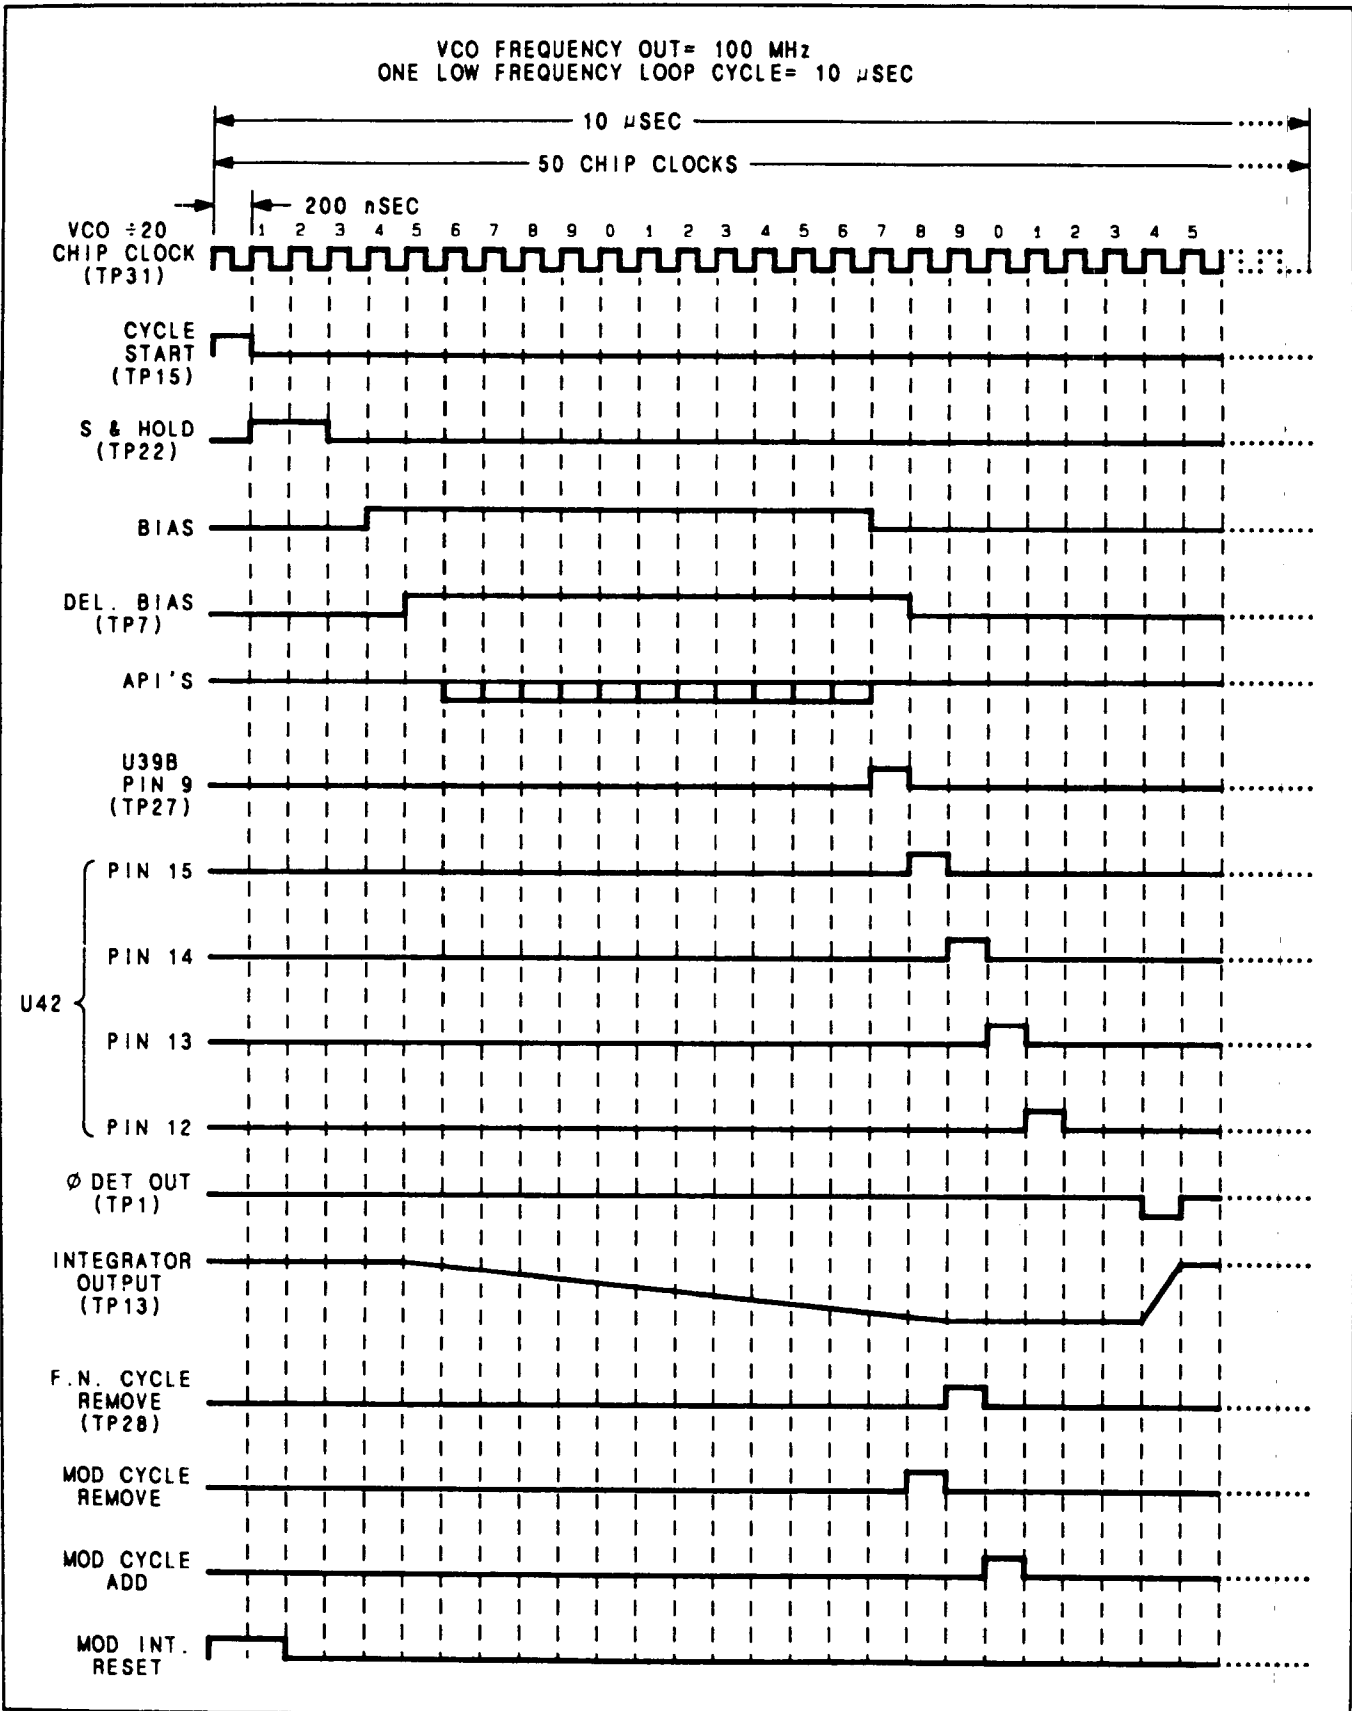
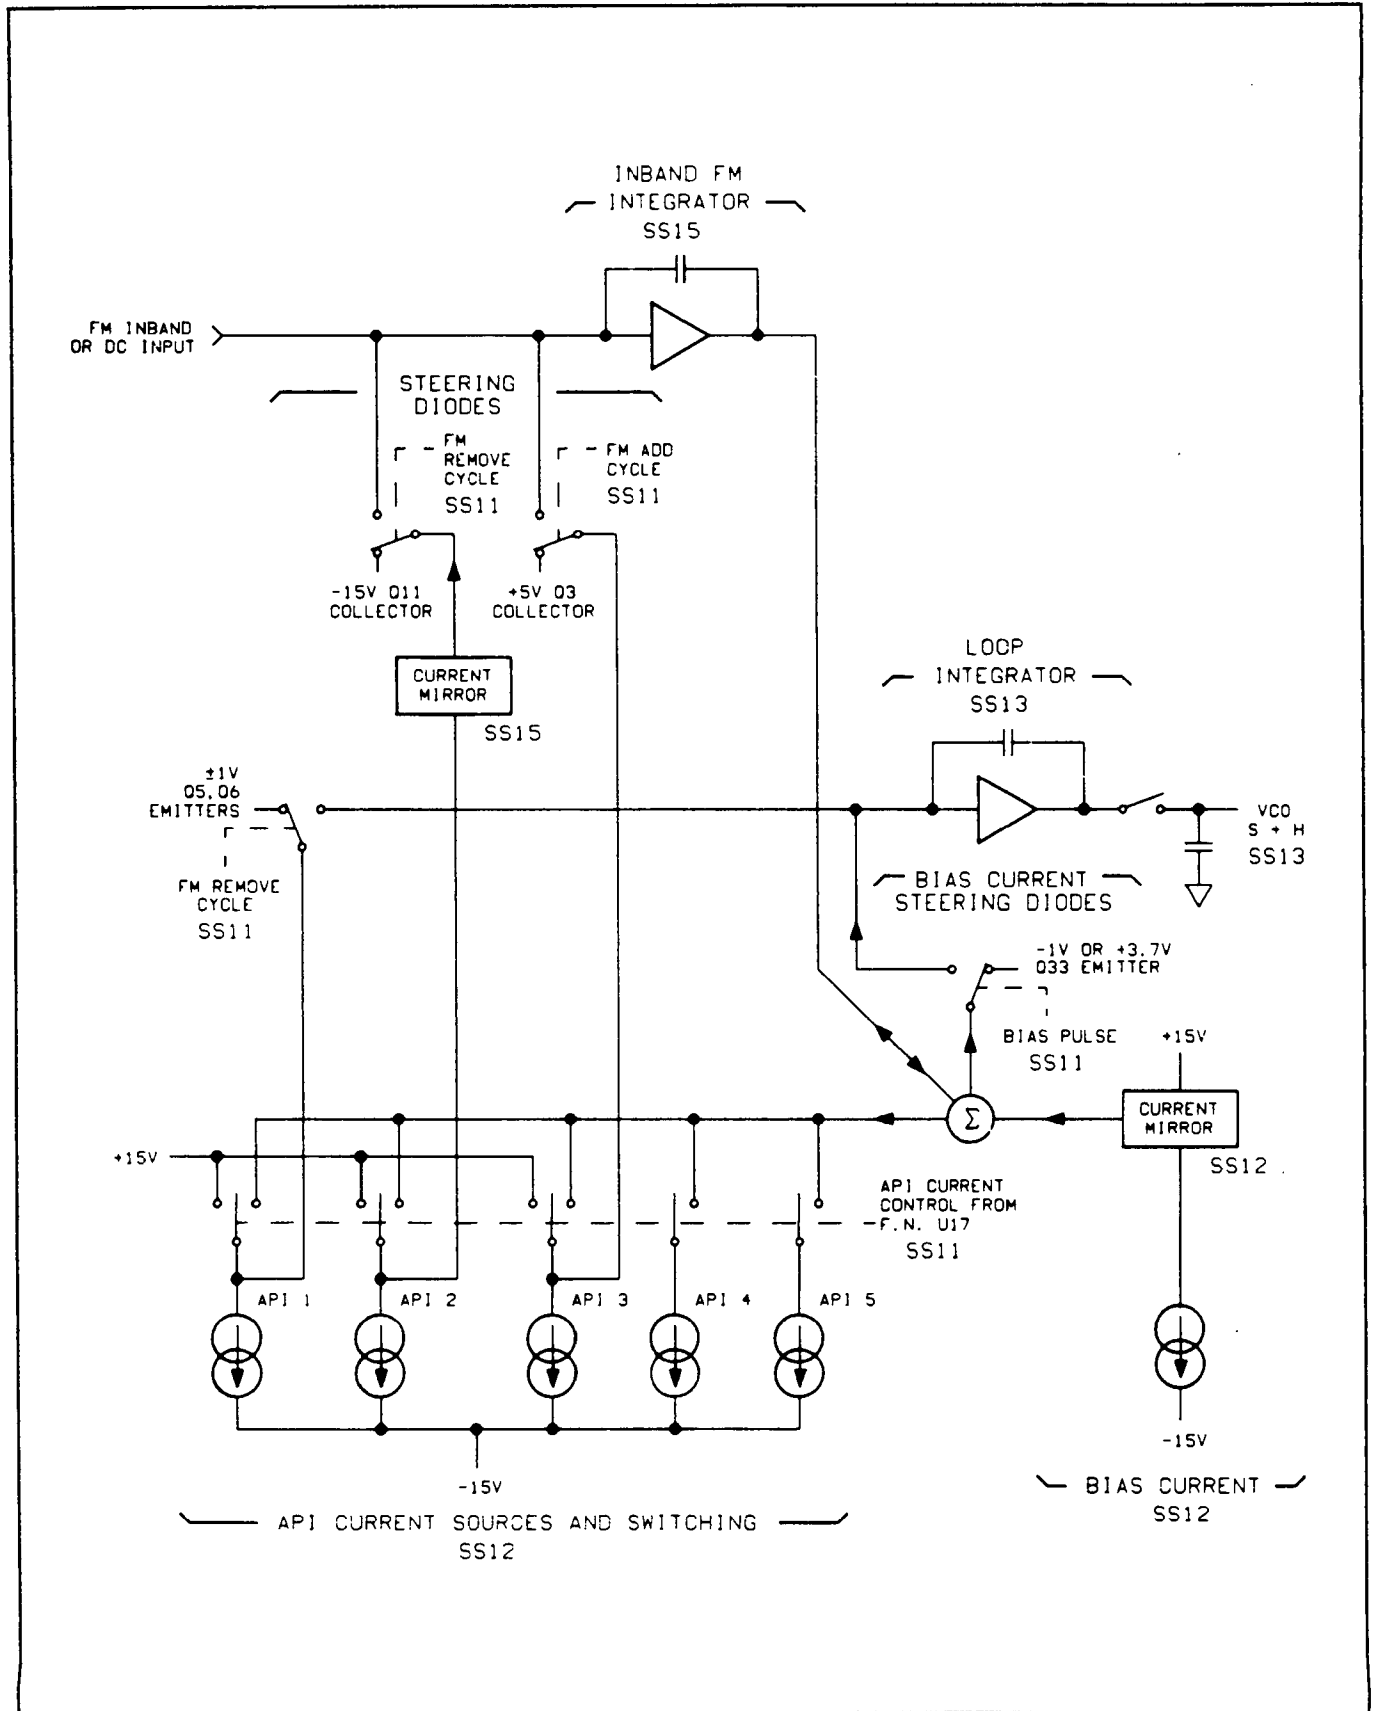

Figure 1. Low Frequency Loop Timing Diagram.
Figure 2. Low Frequency Loop API and Bias Currents.
The Bias pulse from the Fractional-N Controller U17 is the D input at pin 12 of D flip-flop U6B. CHIP CLOCK at pin 11 clocks the high D input of U6B to the output at pin 9, Delayed Bias. The Bias and Delayed Bias pulses remain high for 13 CHIP CLOCK pulses. The Fractional-N Controller sets its BIAS output high one Chip Clock after its Sample and Hold output was set inactive (low). The Integrator's correction voltage has been stored on the Sample and Hold capacitor. See Figure 1, the Low Frequency Loop Timing Diagram. The Integrator is reset before the next phase correction input is received from the Phase Detector. The Delayed Bias Pulse resets the Integrator by directing Bias Current to the Integrator. Figure 2 shows the API and Bias Currents.
1. Check the Bias pulse at pin 12 of U6B, and the Delayed Bias pulse at pin 9. The pulses are at TTL levels and 13 Chip Clocks long. If the Low Frequency Loop is not locked, and the pulses are still 13 Chip Clocks long, but the pulse width changes as the frequency of the Chip Clock changes, refer to Figure 1 and continue with check 1.